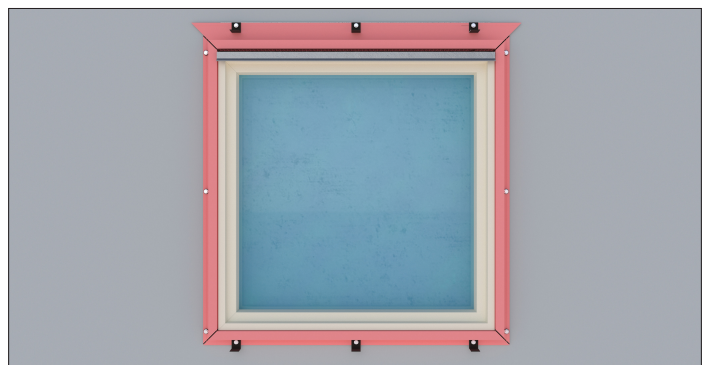

Figure 2
2. Cut and install **General J Trim** around the sill and jambs of the window and **Low Profile Perforated Shallow Starter** for the head of the window. Miter at a 45° angle on all 4 corners of the window. On the head and sill, add plank backers 2" from ends and 16" on center (Figure 2).